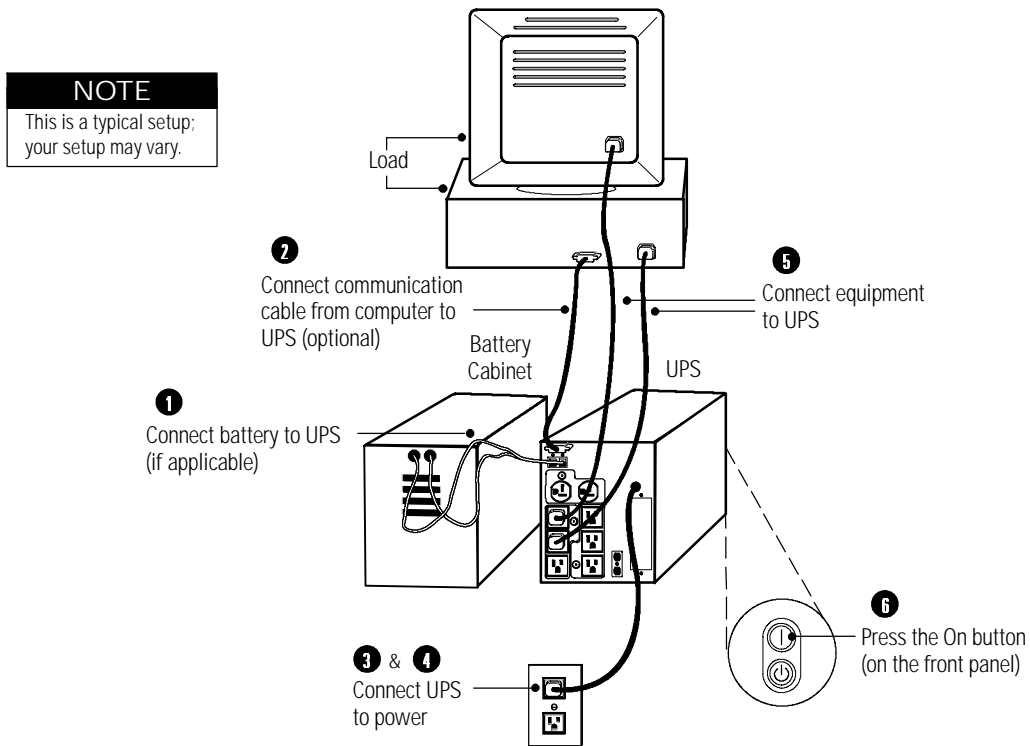

Figure 3. Typical UPS Installation (120V Model Shown)
The following steps explain how to install the UPS. Figure 3 on page 6 shows a typical installation only. See “UPS Rear Panels” on page 7 for the rear panel of each model.
1. If the UPS has an external battery, connect it to the UPS as shown in Figure 3 on page 6.
6. Start the UPS by pressing the On | button as shown in Figure 3. The Power On indicator illuminates indicating that power is available from the rear receptacles.